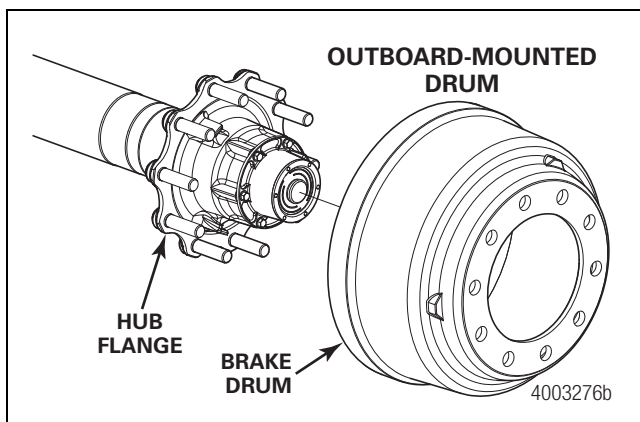

Figure 9.10
- **On outboard-mounted drums:** With this configuration, the brake drum is mounted outboard of the hub flange. Therefore, the hub can remain in place when removing the brake drum. The main advantage of this design is that wheel-end bearings, seals and lubricant can remain in place during brake maintenance. Figure 9.10.